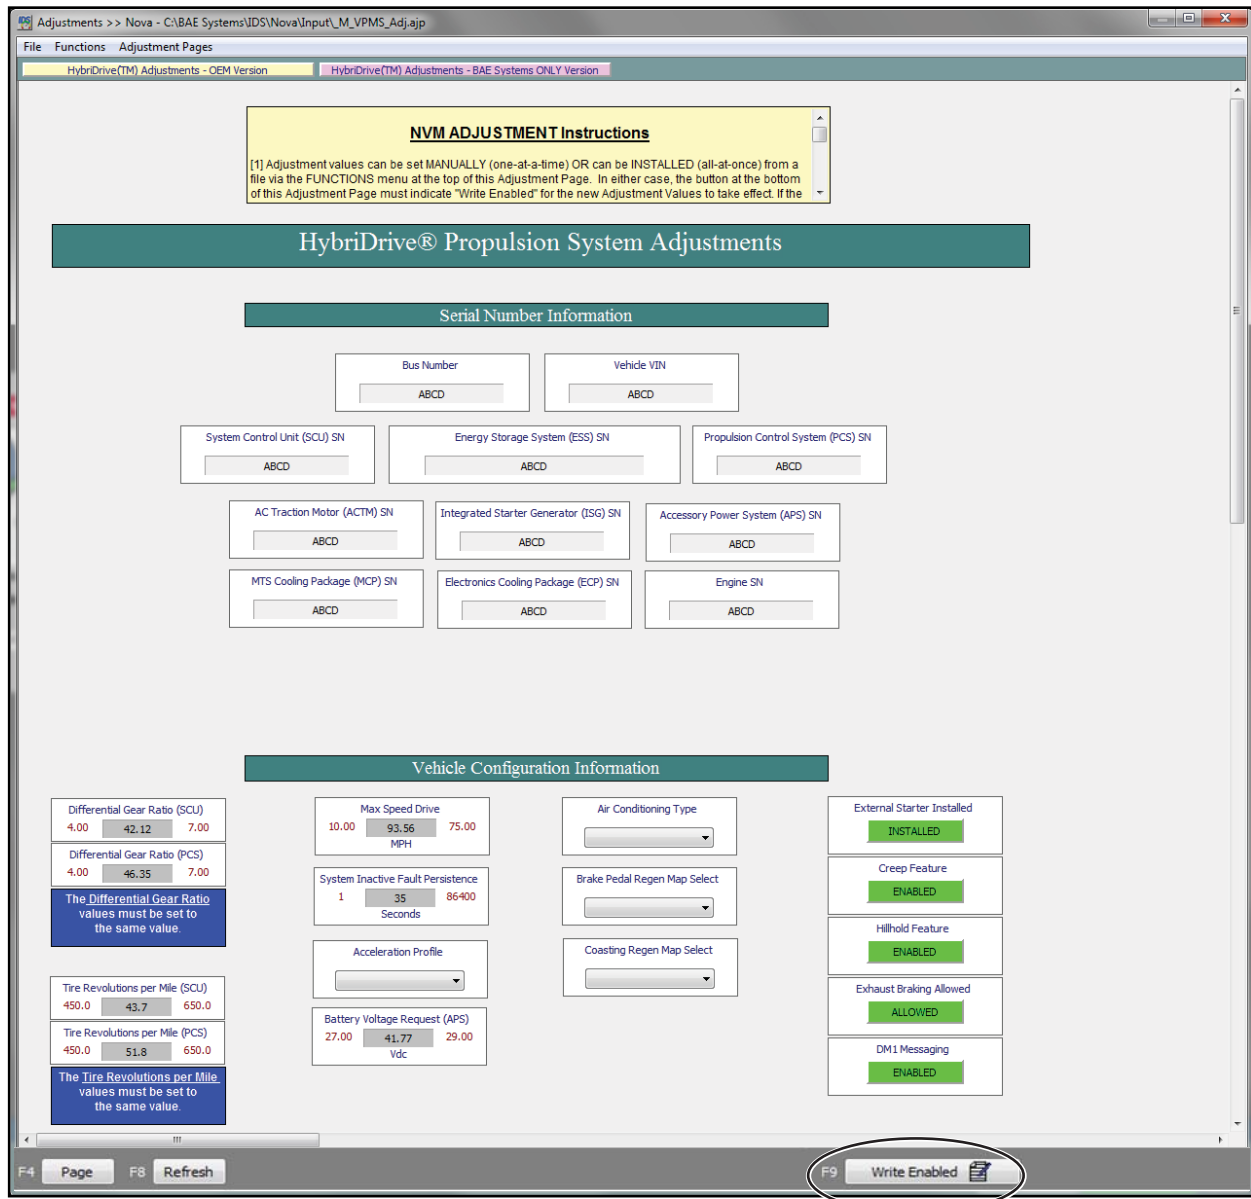

Figure 4 - Select F9
1.6. Select "Write disabled" or F9. See Figure 4.